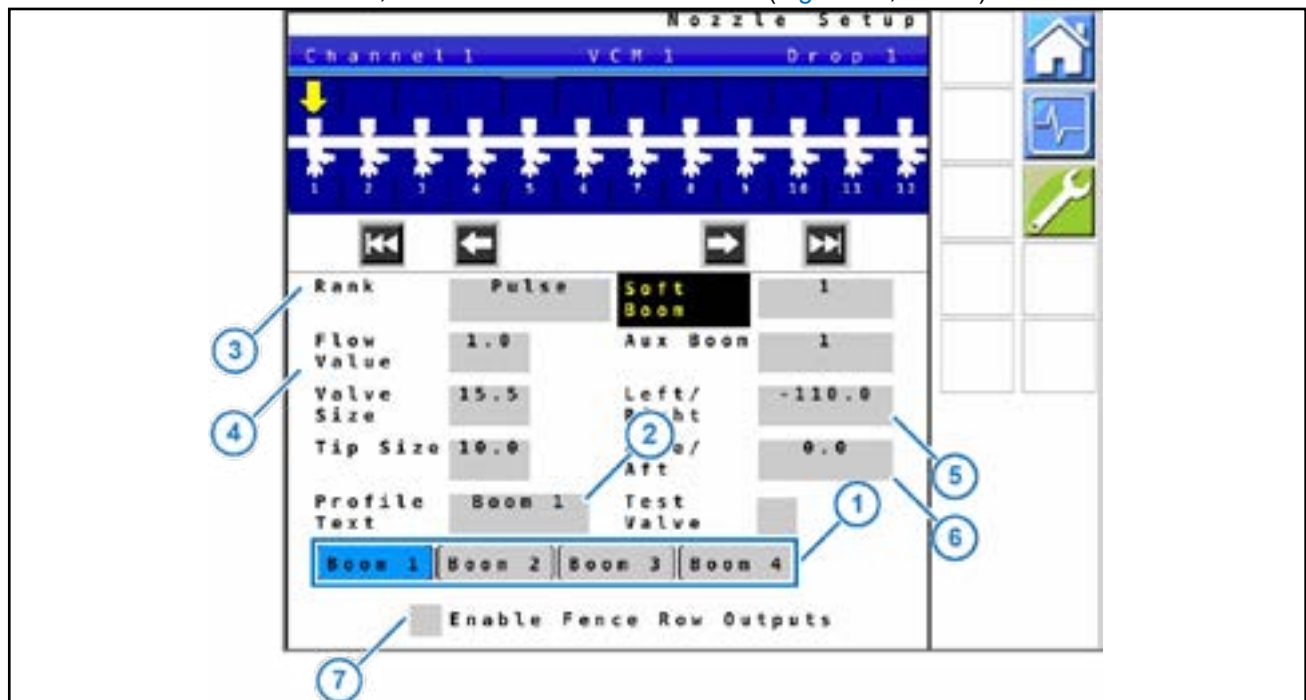

Figure 22: Profile Names on Nozzle Setup Screen
2. At the bottom of the screen, select the desired Profile name (Figure 22, Item 1).
3. Select the box (Figure 22, Item 2) next to **Profile Text**.
6. The **Nozzle Rank** (Figure 22, Item 3) can be changed from the default **Pulse** setting to accommodate different operational requirements. Nozzles must be selected individually using the arrows to change their respective behavior. See Table 4 on Page 43 for Rank explanations.
7. The **Flow Value** (Figure 22, Item 4) adjusts the amount of flow from that nozzle to increase/decrease volume applied.
8. The **Left/Right** (Figure 22, Item 4) number indicates the selected nozzle's location left or right from the center of the boom. Nozzles to the left of center are negative values while nozzles to the right of center are positive values.
9. The **Fore/Aft** (Figure 22, Item 6) number indicates the nozzle location from the primary spray boom. This is typically left as the default 0 value. However, front-mounted boom sprayers may utilize this for rear boom application.
10. The **Enable Fence Row Outputs Checkbox** (Figure 22, Item 7) is used to enable 12V fence row outputs on Pins 1 & 4 of the Digital Output port and Pin 3 of VCM ports 1 & 4. These are controlled by on-screen switches located on the Home screen.